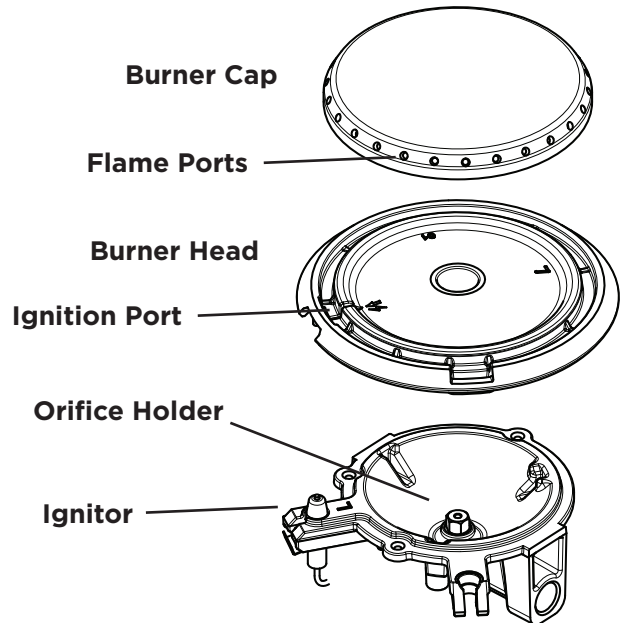

Figure 13: Burner cap, burner head, ignitor, and orifice
1. Remove the burner cap and the burner head (see Figure 13). Clean with hot soapy water and dry thoroughly